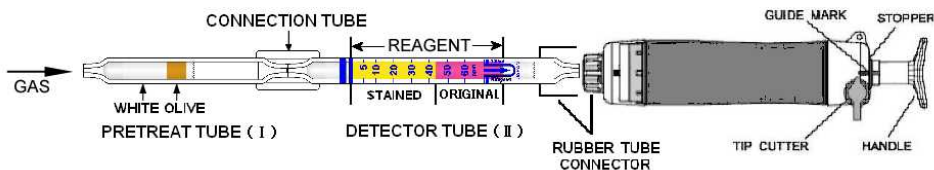

Fig.1
- ① Break both ends of the pretreat tube (I) and detector tube (II), and connect each end of the pretreat tube and detector tube with connecting tube as shown in Fig.1.
- ② Insert the detector tube into the aspirating pump securely as shown in Fig.1. (Arrow mark shall point to the pump.)
- ③ Align the guide marks on the shaft and stopper of the aspirating pump.
- ④ Pull the pump handle at a full stroke until it locks and wait for 2 minutes or until the completion of sampling is confirmed with the flow indicator of the pump. (See descriptions about the flow indicator in the instruction manual of the pump.)
- ⑤ On completion of sampling, read the scale at the maximum point of the stained layer.